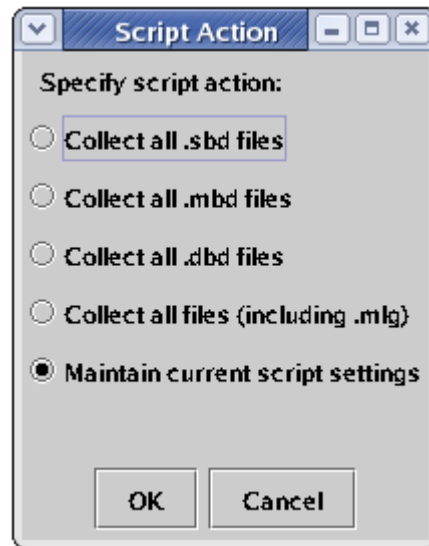

Figure 6-15. Script Action Dialog.
1. Select Missions/Specify script action. A script action dialog will then appear (similar to that shown in Figure 6-15), with radio-buttons for each of the available scripts, plus a radio-button option to maintain whatever script is currently running.